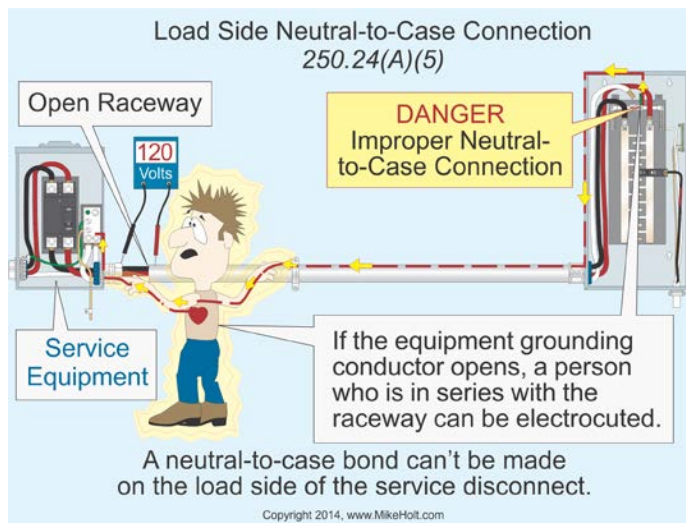

Figure 250-47
- If a neutral-to-case connection is made on the load side of service equipment, dangerous objectionable neutral current will flow on conductive metal parts of electrical equipment [250.6(A)]. Objectionable neutral current on metal parts of electrical equipment can cause electric shock and even death from ventricular fibrillation, as well as a fire. Figures 250-47 and 250-48